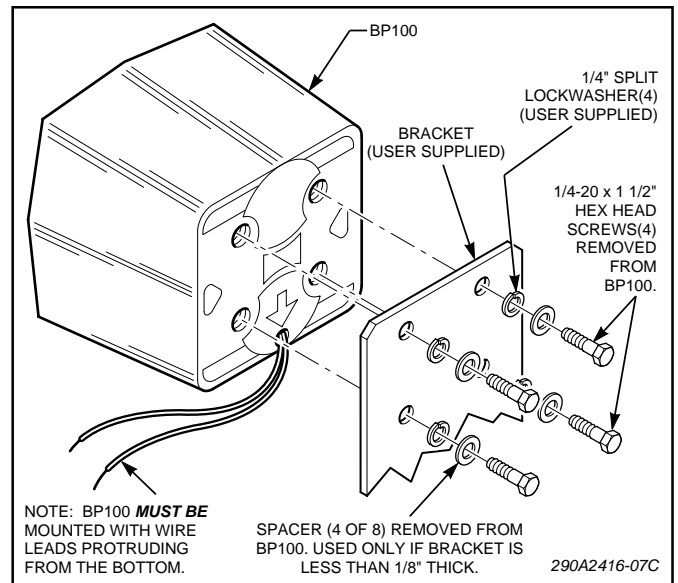

Figure 1.
b. Remove the four screws and eight spacers from the back of the speaker (see figure 1). Retain the screws and four of the spacers.
c. See figure 1. Assemble the fabricated mounting bracket to the speaker using four user-supplied 1/4"